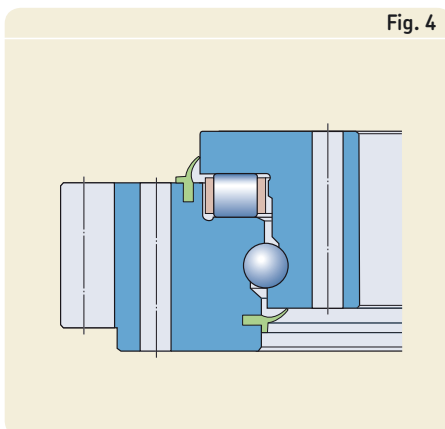

Fig. 4
- with an external gear (→ **fig. 4**)